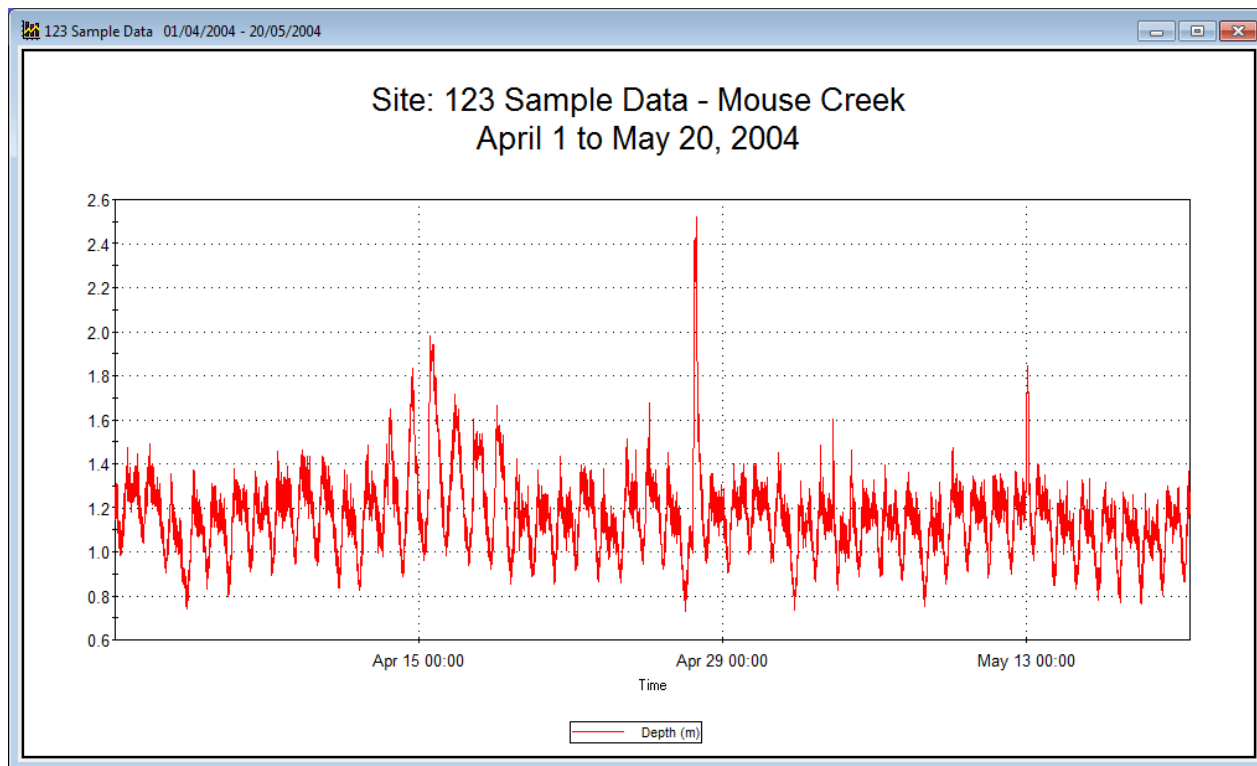

Figure 10: Graphing output window
5. Click *OK*. Your computer will begin processing the data for the sites, time period and inputs you have specified. The progress of the current data processing operation will appear on the progress and status bars. When complete, a window similar to the one below in Figure 10 should appear.